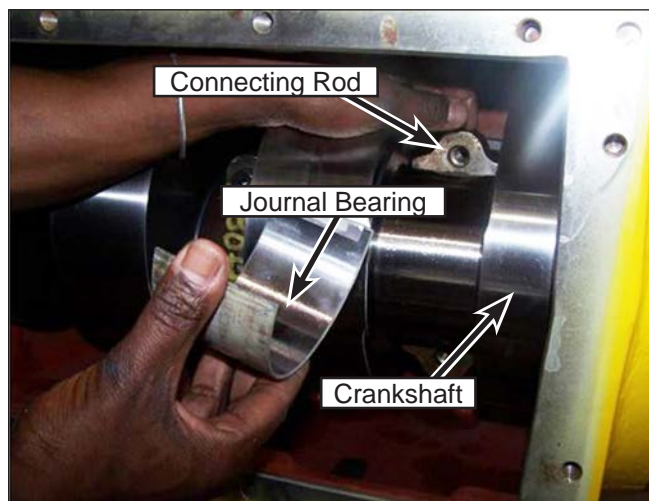

Figure 112: Inner Bearing Removal.
7. To access the inner journal bearing (Figure 112), push the connecting rod away from the crankshaft. Slide the bearing from the rod.